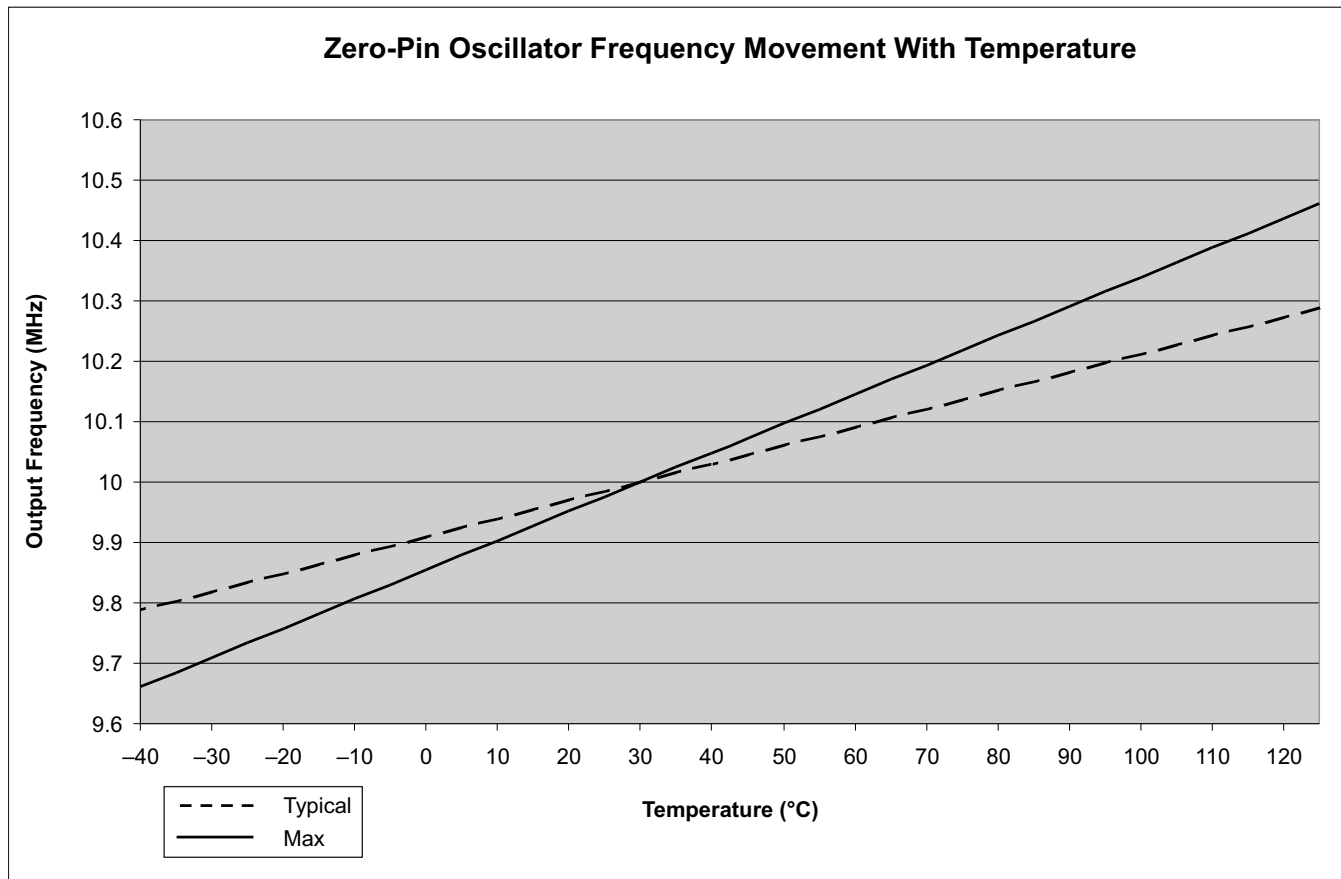

Figure 5-4. Zero-Pin Oscillator Frequency Movement With Temperature
- (1) In order to achieve better oscillator accuracy (10 MHz ± 1% or better) than shown, refer to the oscillator calibration example in *2802x C/C++ Header Files and Peripheral Examples* (literature number SPRC832), and the *Oscillator Compensation Guide Application Report* (literature number SPRAB84). Refer to Figure 5-4 for TYP/MAX values.
- (2) Frequency range ensured only when VREG is enabled, VREGENZ = V_{SS}.
- (3) Output frequency of the internal oscillators follows the direction of both the temperature gradient and voltage (V_{DD}) gradient. For example: